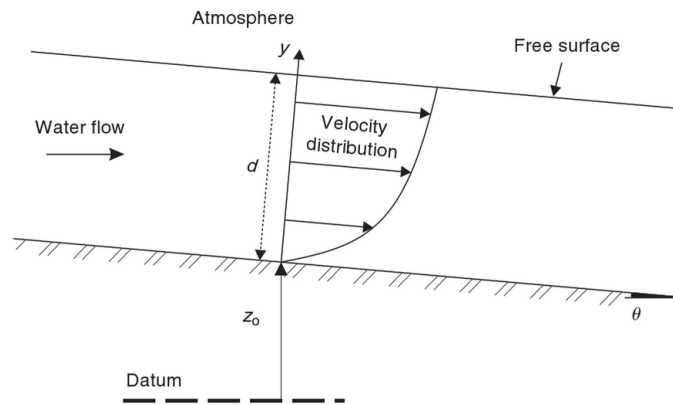

Figure 2. Sketch of open channel flow
Where, Re is the Reynold's number; V is the mean flow velocity; R_h is a characteristic length (the characteristic length for open channel flow is the hydraulic radius) and ν is the kinematic viscosity of the fluid. R_h is calculated using the cross-sectional area (A) divided by wetted perimeter (P) (Equation 2), where b is the width of the channel, and y is the depth of water in the channel. For the full pipe, hydraulic radius is calculated by Equation 3 (Figure 2).